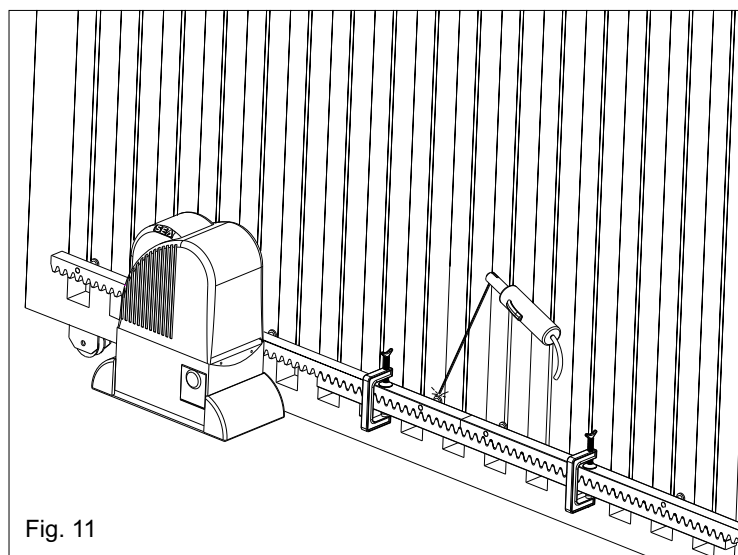

Fig. 11
6.5. Check all the rack pieces are perfectly aligned and placed correctly (serrations in phases). When fitting the next section of rack use a third piece as shown in Fig. 11 to ensure a good mesh.